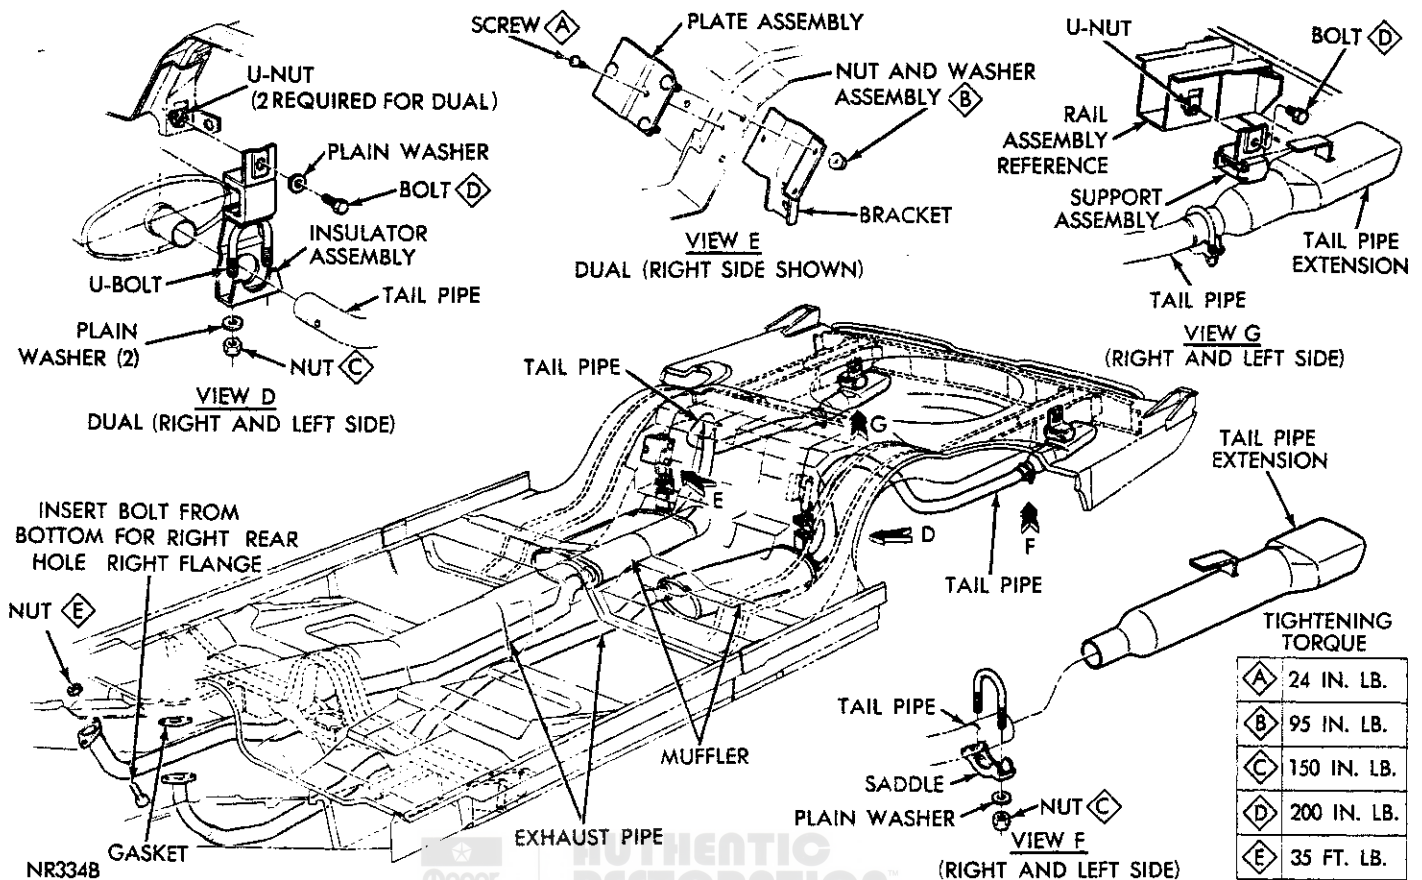

Fig. 3—Exhaust System (Dart—340 Cubic Inch Engines)
The dual exhaust systems (Figs. 3 and 5) use mufflers of aluminized and stainless or chromized steel components. The 426 Hemi engine has in addition to the
Challenger models equipped with 340, 383-4V, 440 and 426 Hemi and also Dart with the 340 cubic inch engines use a chrome plated extension clamped on at the end of their systems (Figs. 3 and 5).
(1) At the extension, remove the U-bolt and saddle clamping arrangement (Fig. 3).
(2) Remove extension bracket support screw attaching bracket to side rail.
(3) Slide extension and support as an assembly from the tail pipe.
(4) Withdraw extension bracket from rubber block in support.